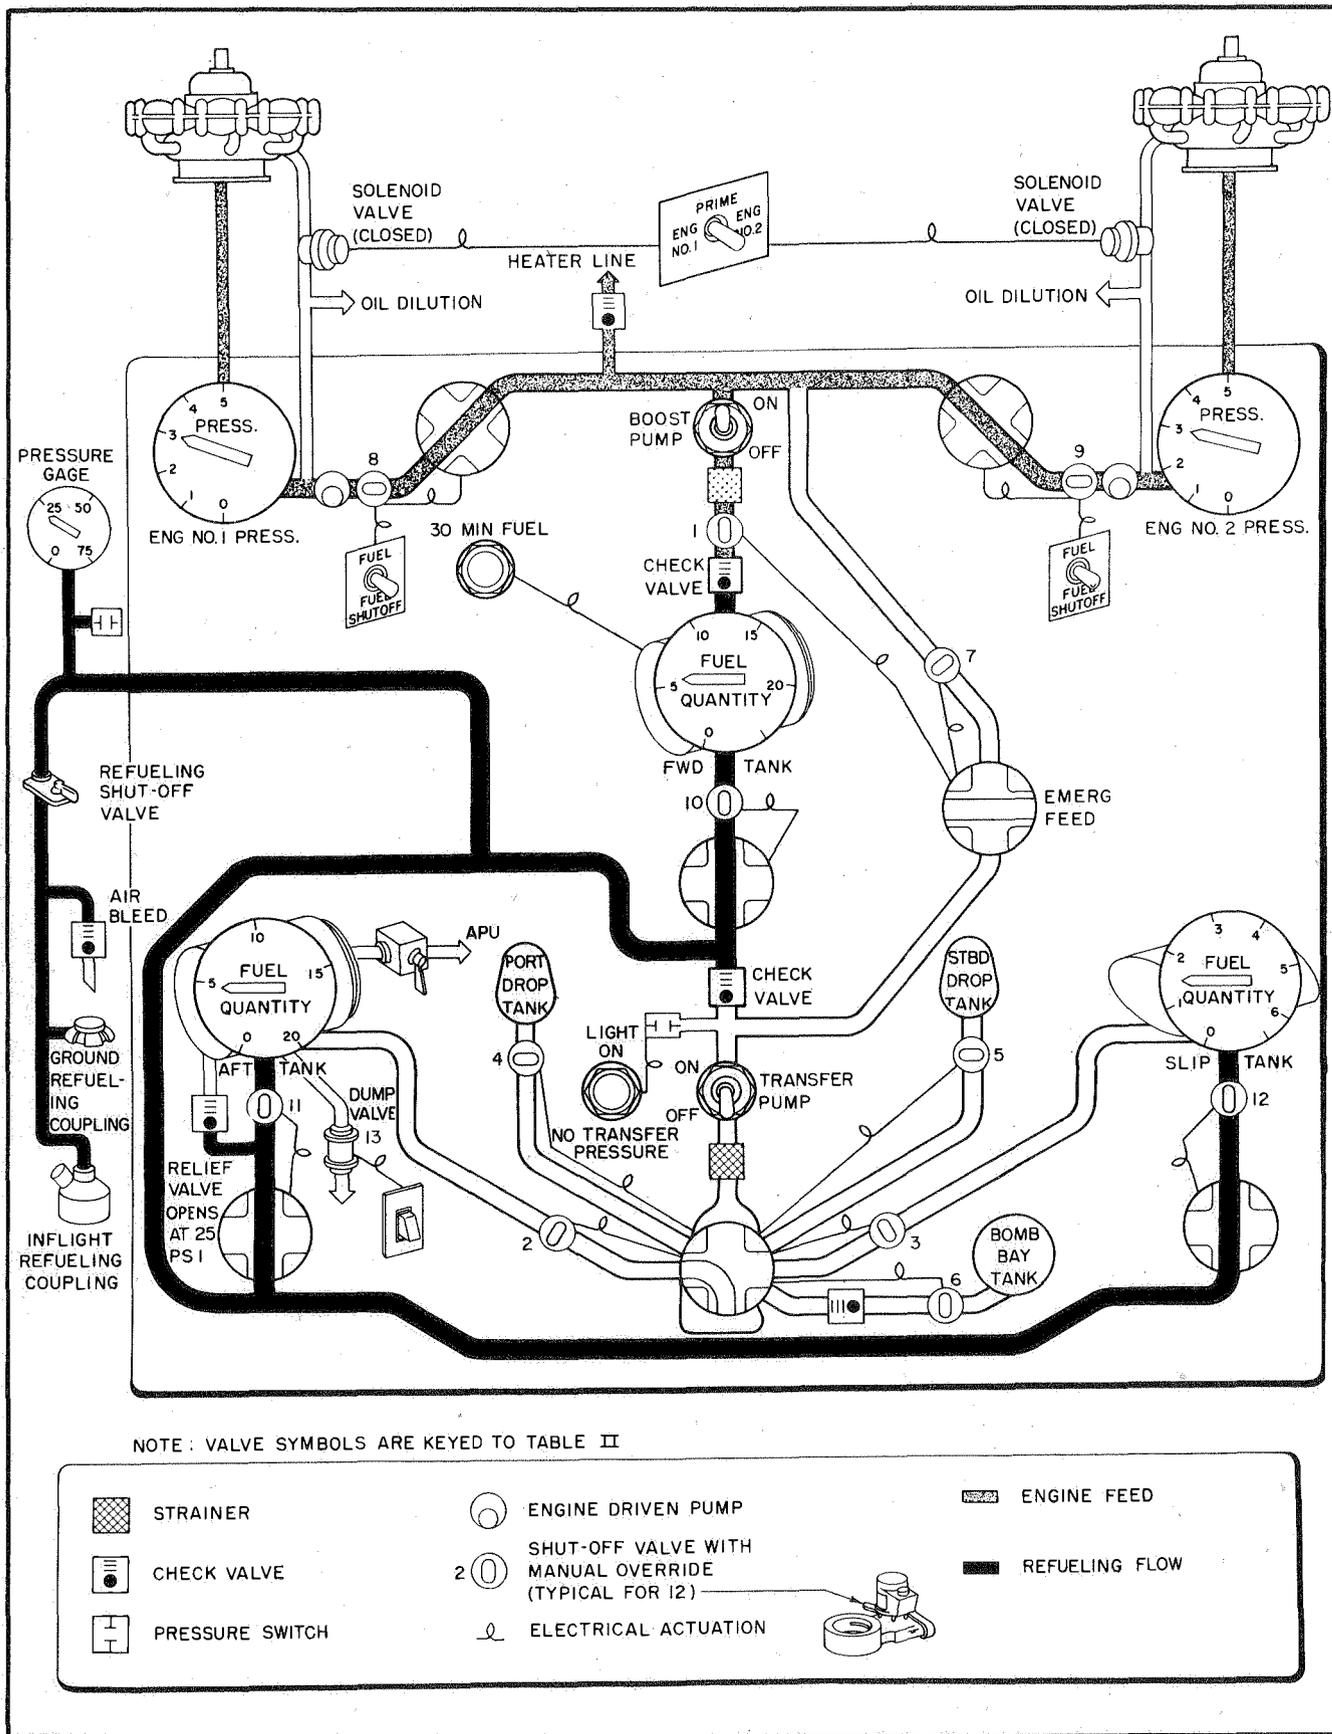

Figure 7-2. Fuel Flow Diagram - Refueling
**PREPARATION.** Engine fuel feed and tank refueling flow are shown in figure 7-2. Flight refueling requires the coordinated effort of the flight crew. Directly concerned in the operation are the pilot, a refueling officer, and the winch operator. The pilot plans the operation